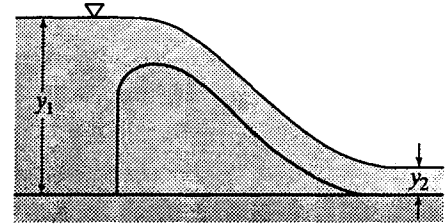

Figure X6.4.4
6.4.5 *Flow occurs over the spillway of constant section as shown in Fig. X6.4.4. Given that  $y_1 = 4.2$  m and  $y_2 = 0.7$  m determine the horizontal force on the spillway per meter of spillway width (perpendicular to the spillway section). Assume ideal flow.*